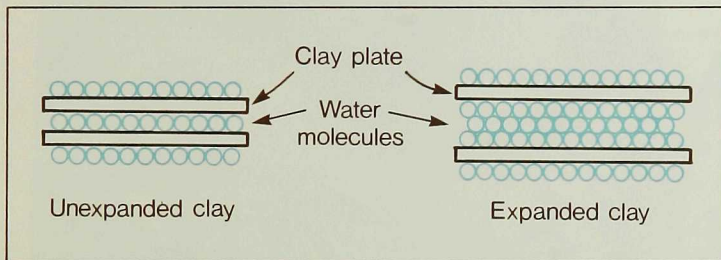

Figure 2. Sketch of expanding clay plates (from Hart, 1974).
Damage from swelling soil occurs when the clay minerals in the soil change volume (shrink or swell) due to moisture change. The change in volume is caused by the chemical and physical attraction of water molecules to the clay minerals. When swelling soils are wetted, layers of water molecules are added between the flat plates of the clay minerals. As more layers of water molecules are added, the clay plates are pushed farther apart as shown in Figure 2. This pushing apart or swelling causes increased volume and high swell pressures within the mass of soil that is being wetted. The amount of volume change depends on (1) the swell potential of the soils, (2) the availability of water, and (3) the restraining pressure on the soils.